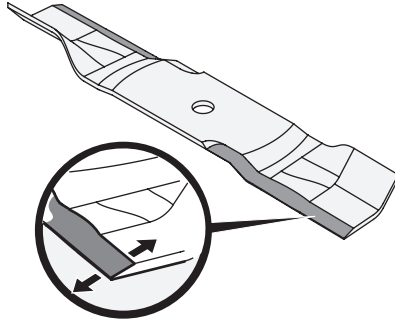

Figure 23
3. To properly sharpen the cutting blades, remove equal amounts of metal from both ends of the blades along the cutting edges, parallel to the trailing edge, at a 25°-30° angle. Always grind each cutting blade edge equally to maintain proper blade balance. See Figure 23.